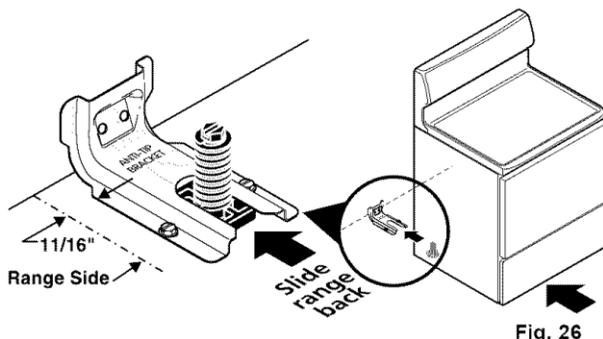
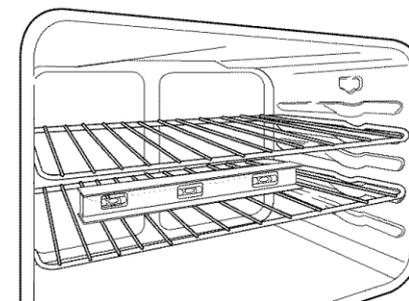

Fig. 26
Fig. 27
- 3. Level & Position Range** - Level range by adjusting the (4) leveling legs with a wrench. Note: A min. clearance of 1/8" is required between bottom of range and leveling legs to allow room for bracket. Slide range back into position (Fig. 26). Remove lower panel or storage drawer to visually check that rear leveling leg is inserted into and fully secured by the bracket. For models with a warmer drawer or broiler compartment, grasp the top rear edge of the range and carefully attempt to tilt it forward. Use a level to check your adjustments (Fig. 27).
Carefully slide range into cabinet opening while inserting rear leveling leg into and FULLY ENGAGING THE ANTI-TIP BRACKET (See Fig. 26). Make sure that the flexible appliance conduit (Fig. 18) and the power cord (Fig. 20) folds into the remaining open floor area behind the range warmer or storage drawer. **Make sure that the flexible appliance conduit does not become pinched or kinked!** Pre-shape the flexible appliance conduit and power cord if necessary to insure that the range slides into cabinet opening properly. Be sure to check the level of the range by placing a level horizontally on an oven rack (See Fig. 27).